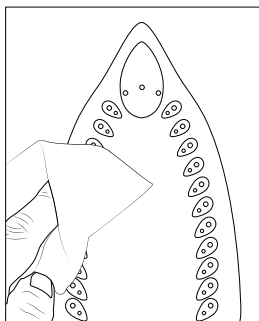

Fig. 1
- ◆ Clean the soleplate **8** using a damp cloth (see fig. 1).